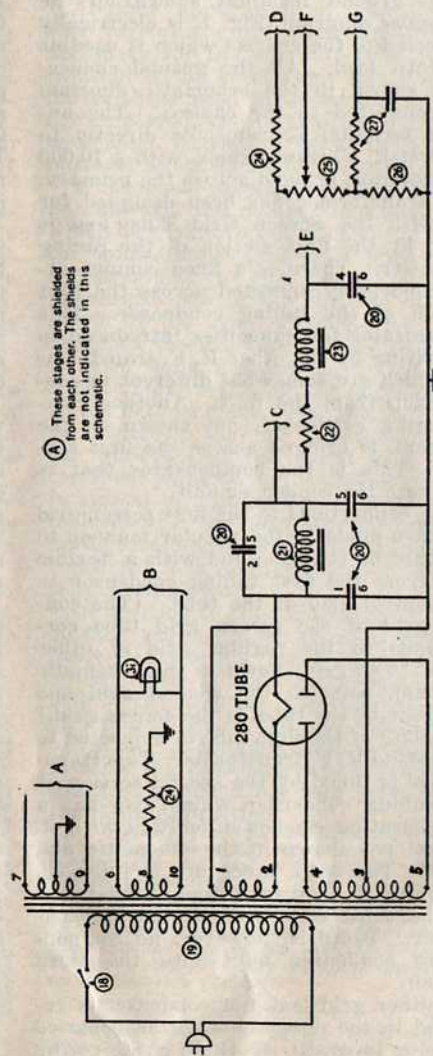

Fig. 1—Schematic Diagram of Philco Screen Grid Receiver, Model 65.
The ground terminal shown on the schematic diagram, Fig. 1, is electrically connected to the chassis which is used as a return lead. All the ground connections shown in the schematic diagram are connected to the chassis. The antenna terminal is connected directly to the first R. F. transformer, with a 10,000 ohm resistor, bridged across the primary. This transformer has been designed for use with the Screen Grid Tube and is tuned by the first section of the tuning condenser. There is a fixed compensating condenser connected across the first section of the tuning condenser. This compensates for capacities introduced in the wiring by the other R. F. transformers which are somewhat different in construction from the first. Another compensating condenser, not shown on the diagram, is bridged across the first section. This is the compensator that is built into the condenser unit.
Figure 1 is a schematic diagram of the receiver and speaker circuit. The numbers enclosed in the circles in the sche-
**IMPORTANT NOTICE.** The power transformers in a few of the first receivers manufactured had different terminal numbers than those shown in Figure 1. In such receivers the figures in the Figure 1 should be changed as follows: Change No. 1 to No. 4, No. 2 to No. 5, No. 4 to No. 1 and No. 5 to No. 2.